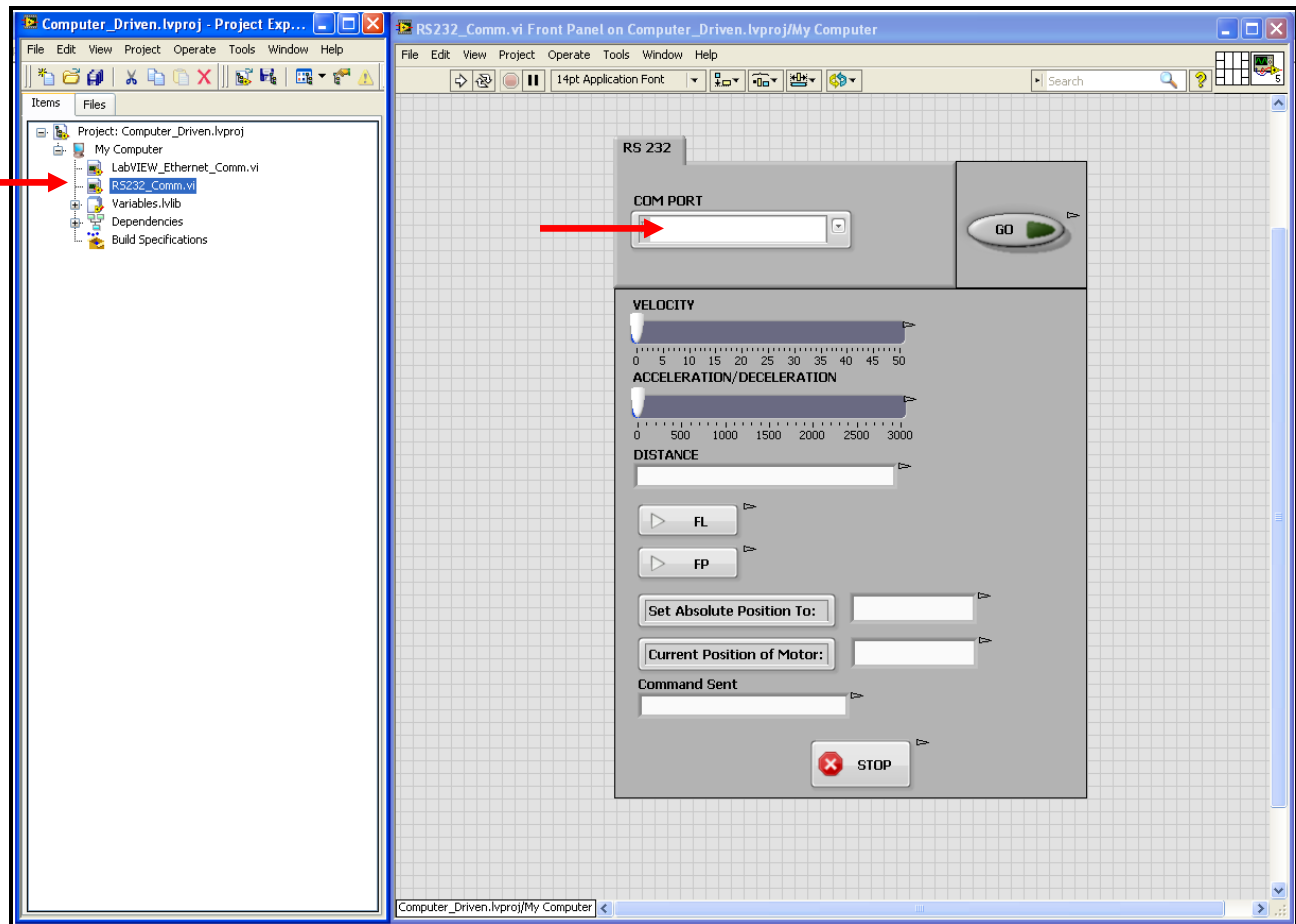

Figure 9: Sample LabVIEW user interface for RS-232 communication
2) Open up the 'RS232_Comm' VI and select the COM port you connected the stepper drive to using the field indicated by the red arrow in Fig. 9.